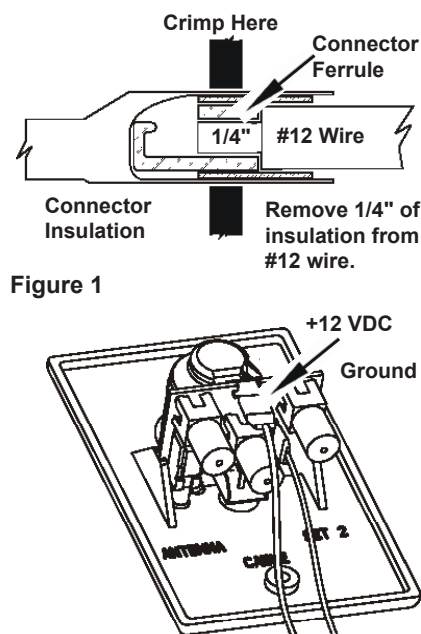
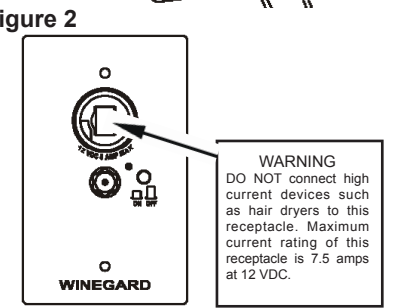

Figure 1
Figure 2
**STEP 3.** Make +12 volt connection to wall plate/power supply Figure 2. Install terminals on wires from +12VDC source as shown in Figure 1. Crimp terminals with Craftsman type 4 crimping tool or equivalent. Push wires onto tabs on terminal board as shown in Figure 2. If in doubt as to the polarity of the wires, connect them temporarily to tabs on circuit board and press switch on front of outlet. If light comes on, polarity is correct. See Figure 3.